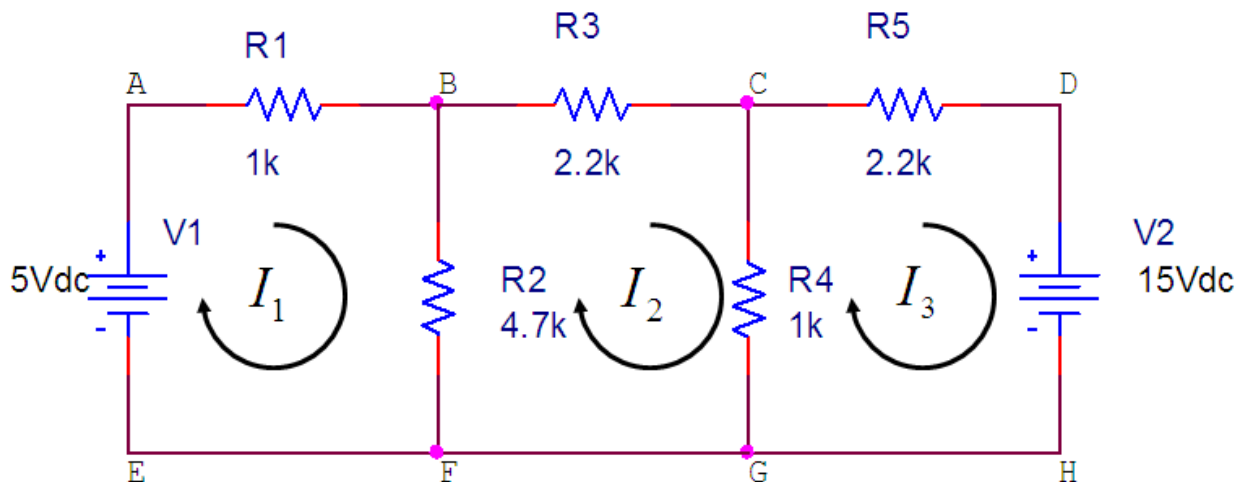

Figure 1. Circuit to be simulated
The circuit shown in Figure 1 will be used in this lab to study the Node Voltage and Mesh Current analysis techniques. The definition of each mesh current is given in the figure. For future convenience, the node voltage will be represented as ' V_x ', where ' x ' represents one node from a list of nodes such as 'A, B, C, D, E, F, G, H'.
- (1) Choose the ground node and write down two sets of symbolic equations leading to solve the circuit using Node voltage and Mesh current methods. Explain which method is preferred to use for calculations. (20 points)
- (2) Use PSPICE to simulate the circuit show in Figure 1 using bias point mode. What are the values of the mesh currents I_1 , I_2 , and I_3 . Use mesh current to calculate the branch currents of R_2 and R_4 and compare them with the directly calculated simulation results. In Schematic drawing program, turn on the “Bias voltage display” and “Bias current display” so that you can copy the circuit and the simulation results to your prelab report. (20 points)
- (3) Replace the wire connecting nodes E and F with a resistor $R_6 = 1k\Omega$, choose the ground node and write down two sets of symbolic equations leading to solve the circuit using Node voltage and Mesh current methods, and explain which method is preferred in this case. (15 points)
- (4) Use PSPICE to simulate the new circuit given in step (3). Use mesh current to calculate the branch current of R_2 and R_4 and compare it with the directly calculated simulation results. Copy the circuit and the simulation results to your prelab report. Compare the new node voltage with the node voltage obtained in step (2) and generate a table to summarize the results. (15 points)
- (5) Based on the circuit described in step (3), further replace the wire connecting nodes G and H with a resistor $R_7 = 2.2k\Omega$, choose the ground node and write down two sets of symbolic equations leading to solve the circuit using Node voltage and Mesh current methods, and explain which method is preferred in this case. (15 points)
- (6) Use PSPICE to simulate the new circuit given in step (5). Use mesh current to calculate the branch current of R_2 and R_4 and compare it with the directly calculated simulation results. Compare the new node voltage with the node voltage obtained in step (4) and generate a table to summarize the results. (15 points)